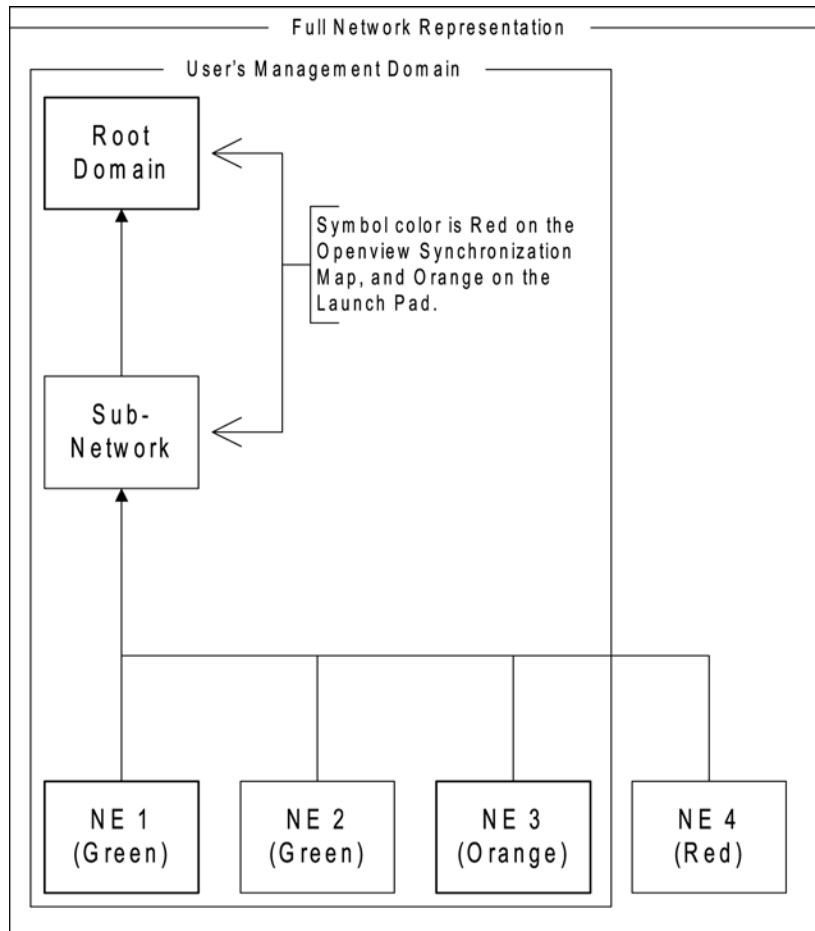

Figure 3-2. Status Propagation
2. In an X-Windows-based user session, the status propagation shown in the Openview Synchronization Map takes into account all NEs and sub-networks in the map. This is different from the status propagation shown in a Web-based user session, where the status propagation shown in the Launch Pad takes into account only those NEs and sub-networks that are included in the user’s management domain. Figure 3-2 illustrates this: